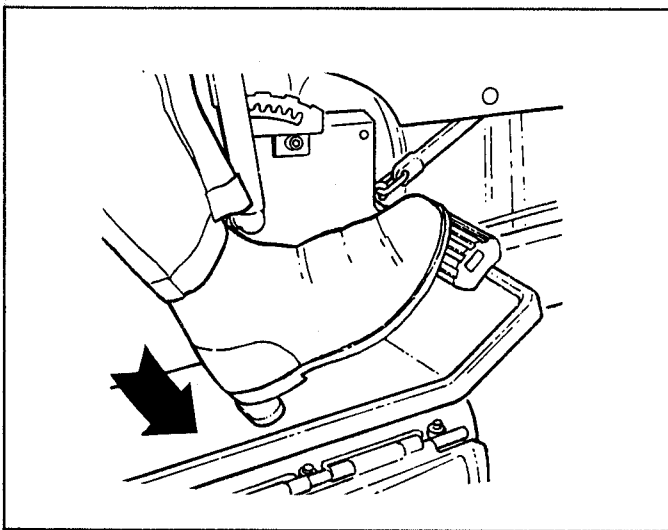

Figure 6: HEEL DOWN TO REVERSE MOTION
2. REVERSE - Slowly depress the "heel" pad on the CONTROL pedal with your right heel. Refer to Figure 6.